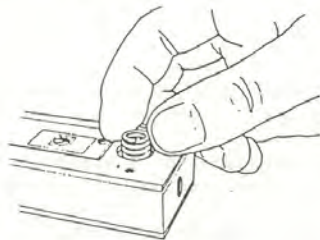

Figure 6
1. Remove four Cover Retaining Screws (7) and take off the Covers (6) on both sides.
2. Using a pair of white springs or black springs, insert springs into the hole; one from the top and the other from the bottom (Figure 6). Observe that both springs do not touch the surroundings in the hole.